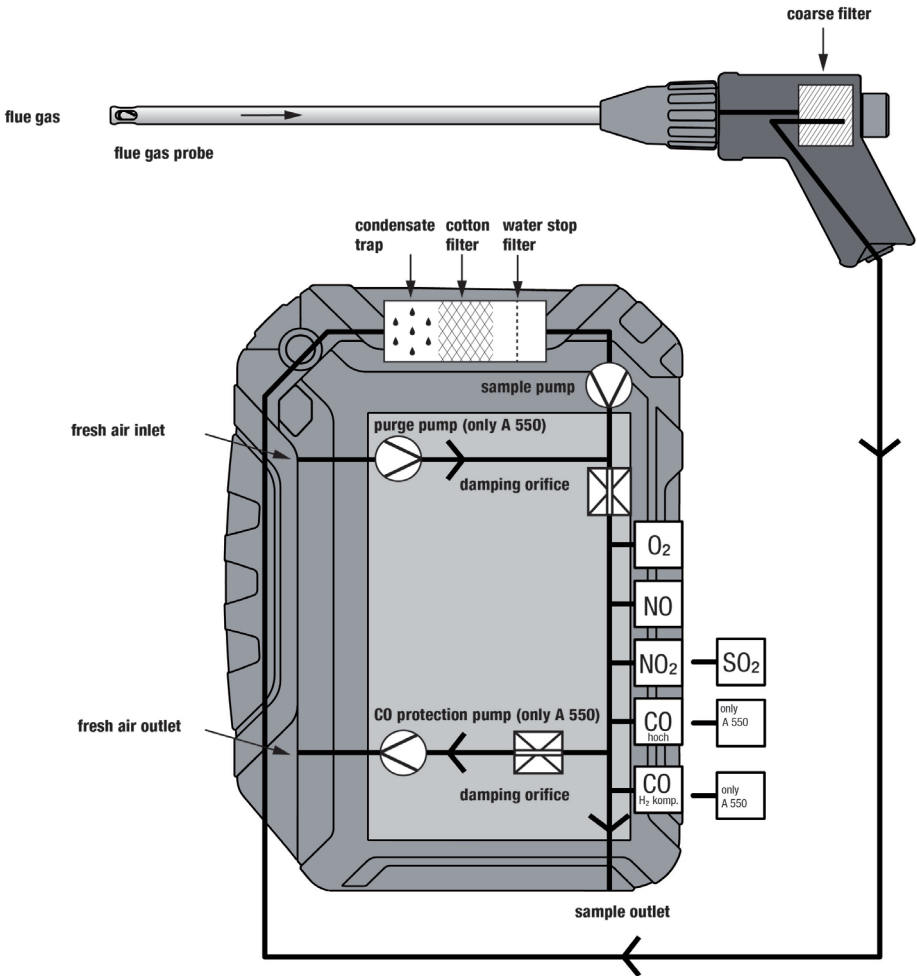

Fig. 18: Gas sampling path Wöhler A 550
- **Before the first start up activate the batteries by pushing the transport lock in the probe compartment (see Fig. 18) to the connector, see figure on the left. Use a pointed object to do so.**